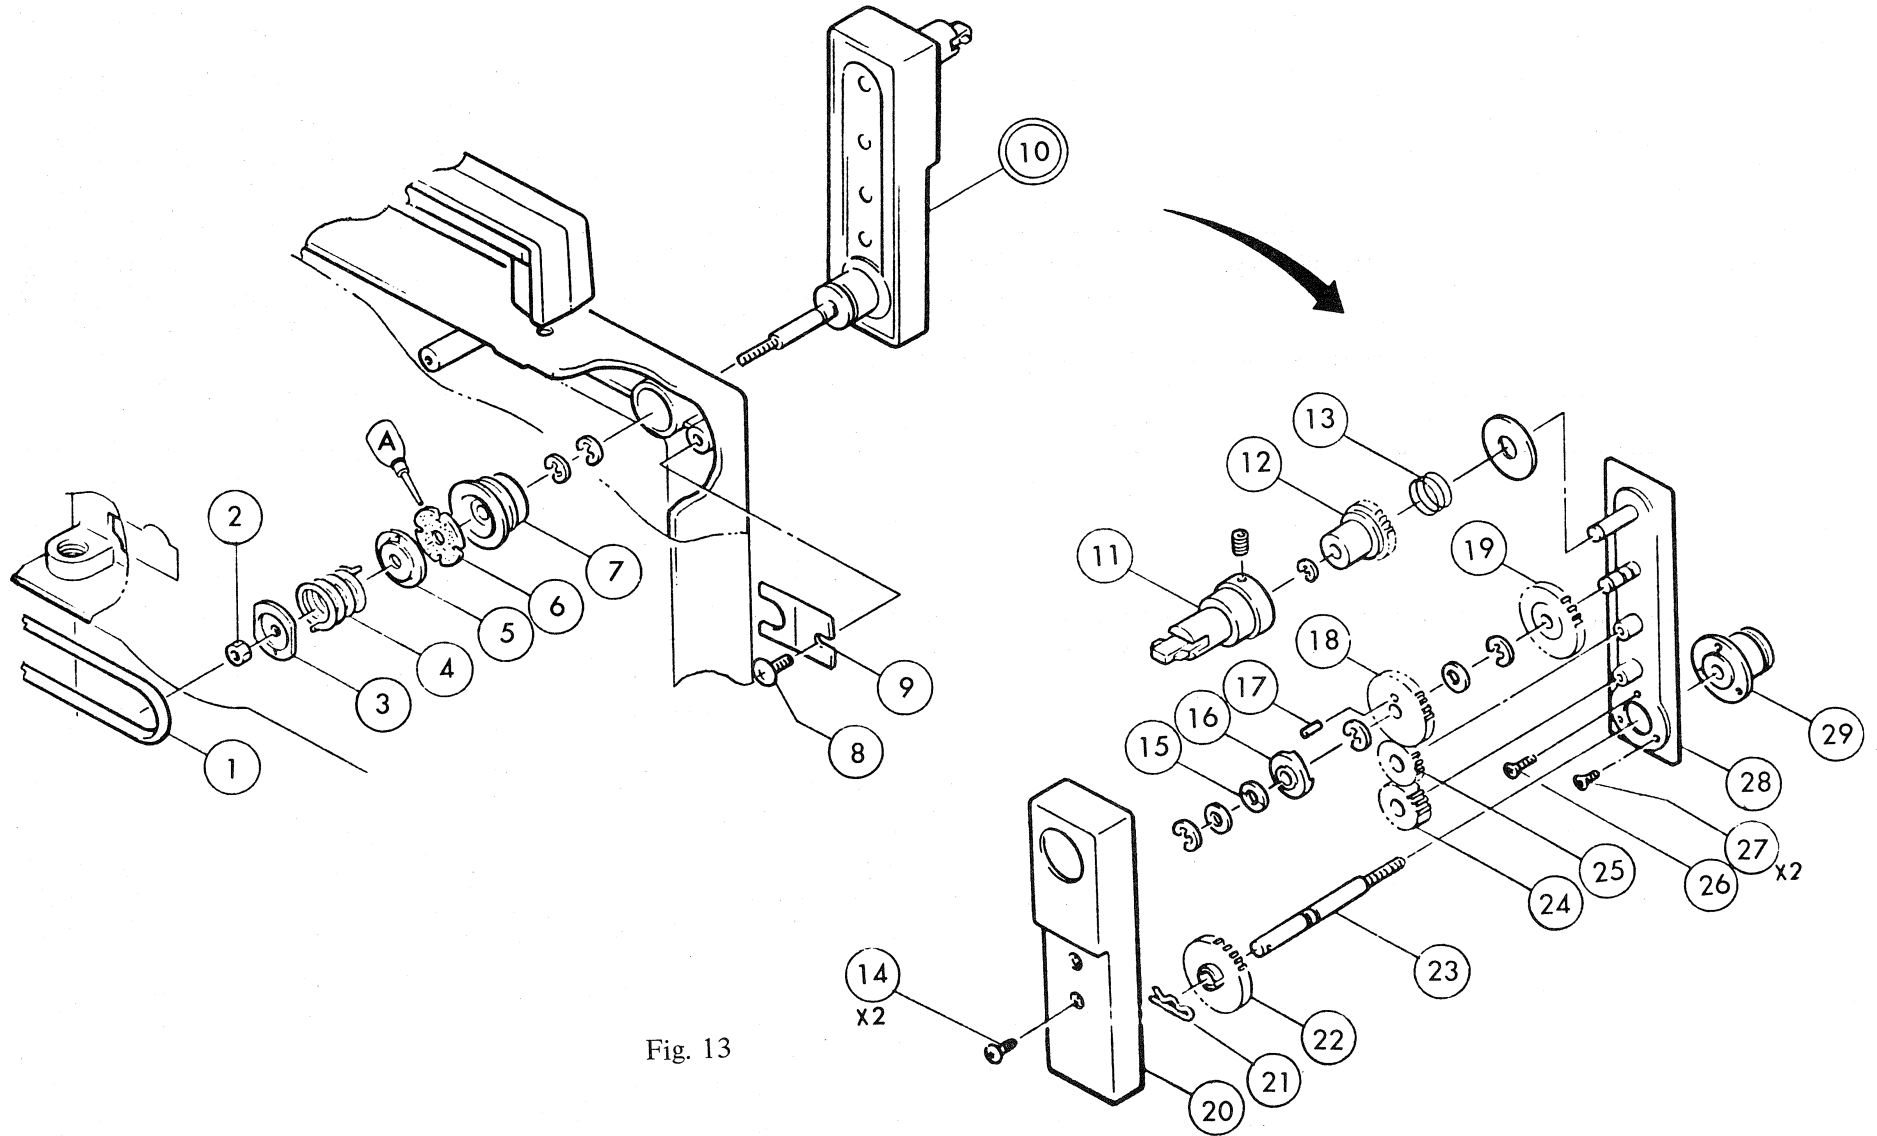

Fig. 13
### III – 2 – 5 Rear Arm (See Fig. 13)
1. Unscrew 2 pieces of ⑭ to remove ⑳.
4. Unscrew ⑧ and disconnect ⑨ to remove ㉙.
5. See Fig. 13 for further disassembly.